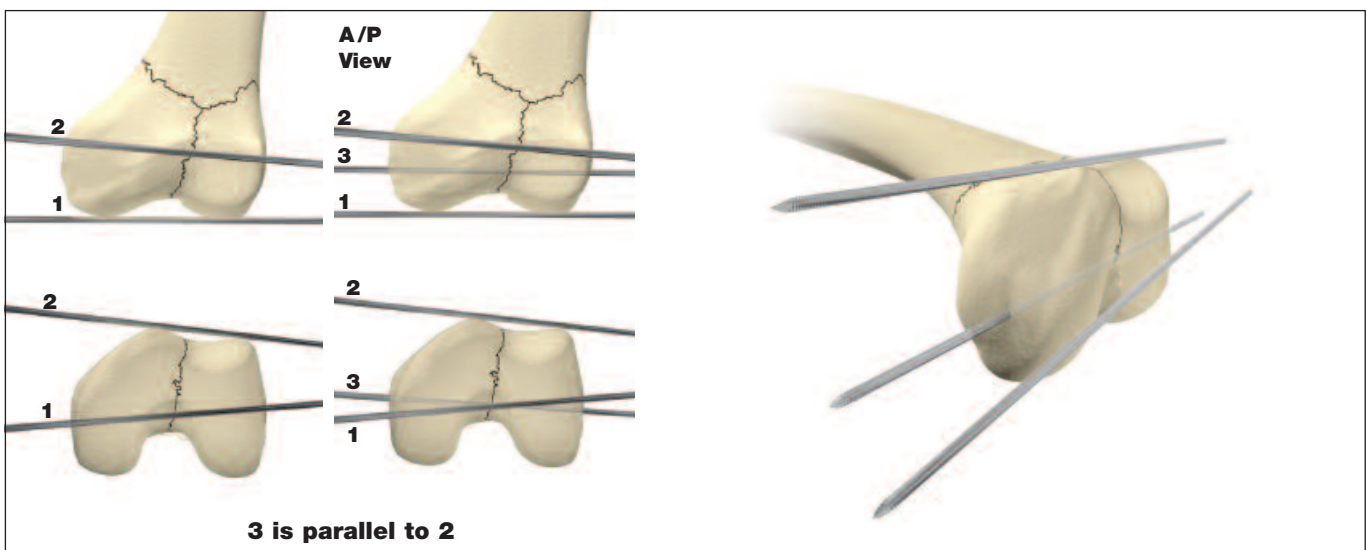

Fig. 6
Given insufficient bone stock for utilization of the supracondylar pin guide, an alternative method for pin placement is required (**Fig. 6**). The knee joint axis is marked with a fine K-wire placed across the knee joint (1). A second fine k-wire is placed across the patellofemoral joint (2). A summation k-wire, parallel to the distal pin in the A/P view and the patellofemoral pin in the axial view, is placed around 2.5cm proximal to the distal femoral articulation (3).